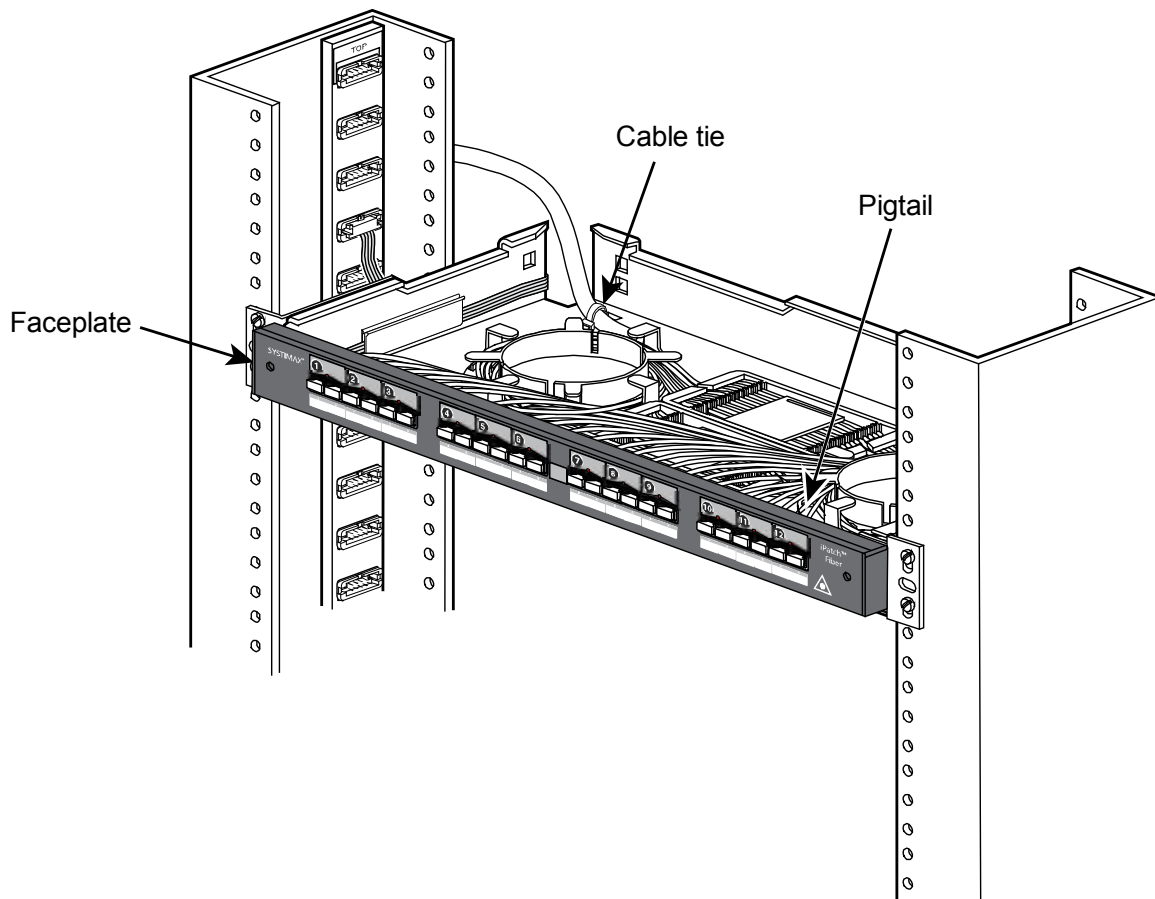

Figure 7 Positioning the Splices and Fibers
1. With a cable tie (provided), tie down the incoming fiber optic cable to the shelf, using the holes provided for this purpose (Figure 7). Position the cable so that the tie is on the jacket, about 1 inch (2.5cm) from the edge of the jacket.
5. Dress the fibers as shown in Figure 7 and route the slack around the storage drums.